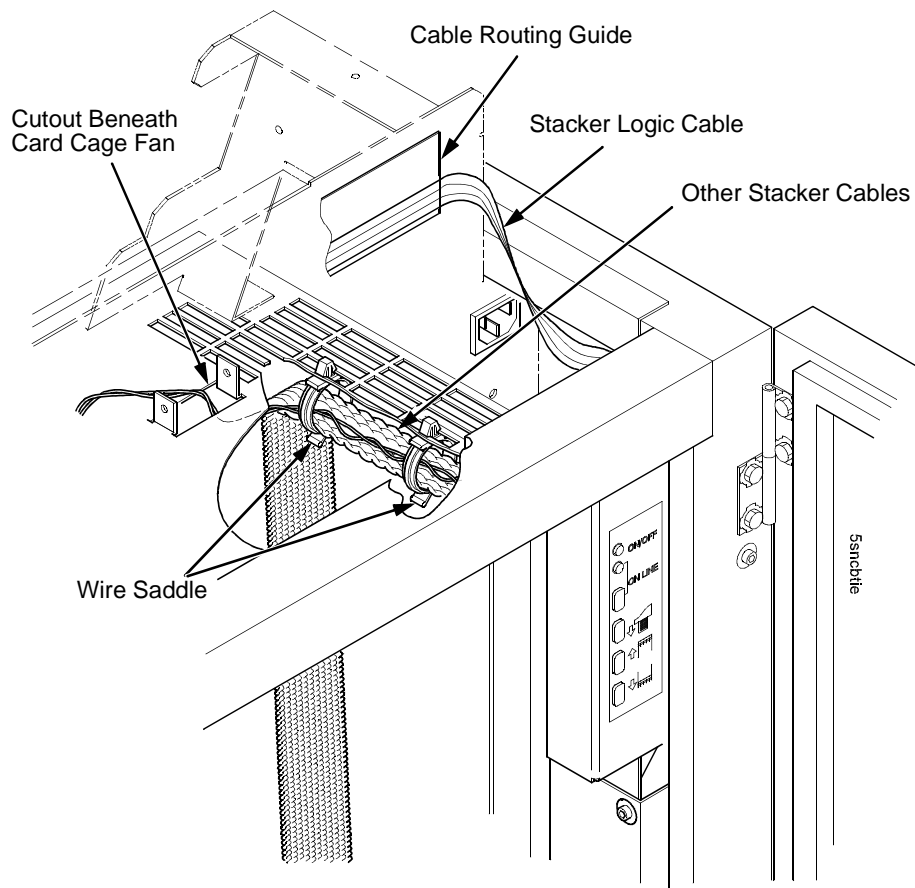

Figure 83. Securing Stacker Cables
36. Bundle the stacker control panel cables in the wire saddles located under the card cage. Tie wrap the cables so they do not catch in the stacker mechanism as it moves up and down. Route the stacker rail and frame cables so they move without snagging as the elevator assembly moves up and down. (Figure 83.)